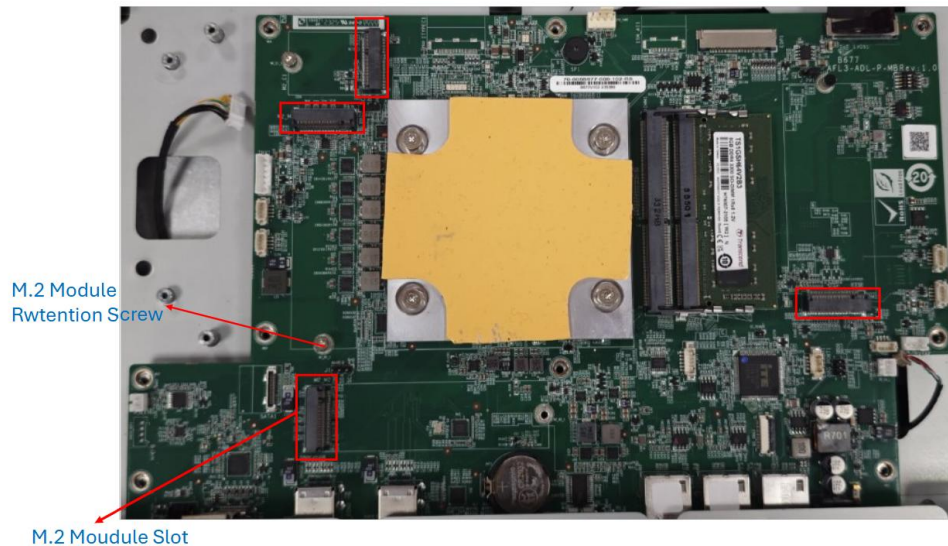

Figure 3-2: M.2 Module Slot Location
Step 2: Locate the M.2 card slot. Remove the preinstalled retention screw on the standoff of the M.2 card slot as shown in **(Figure 3-2)**